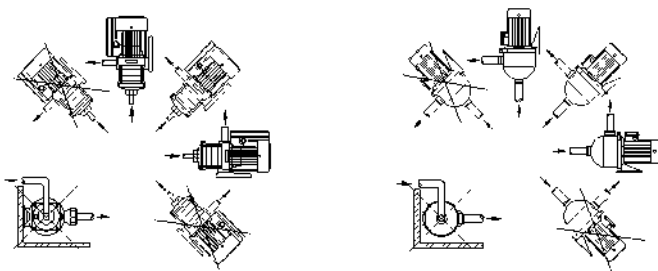

Fig. 1
- The pump may be installed as shown in Fig. 1.